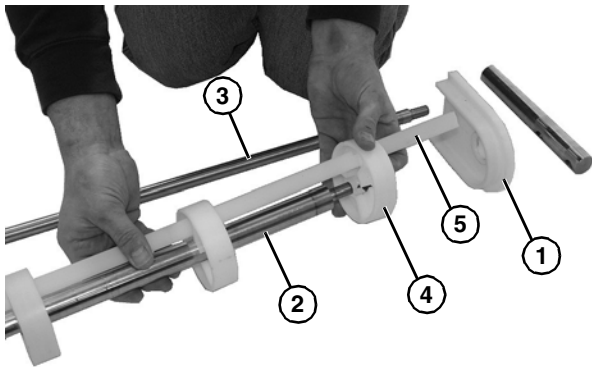

Figure 63
3. Remove pinch guard (**Figure 63, item 1**) from idler shaft (**Figure 63, item 2**) and pinch guard shaft (**Figure 63, item 3**).
4. Slide the pucks (**Figure 63, item 4**) and alignment bar (**Figure 63, item 5**) off the idler shaft (**Figure 63, item 2**).